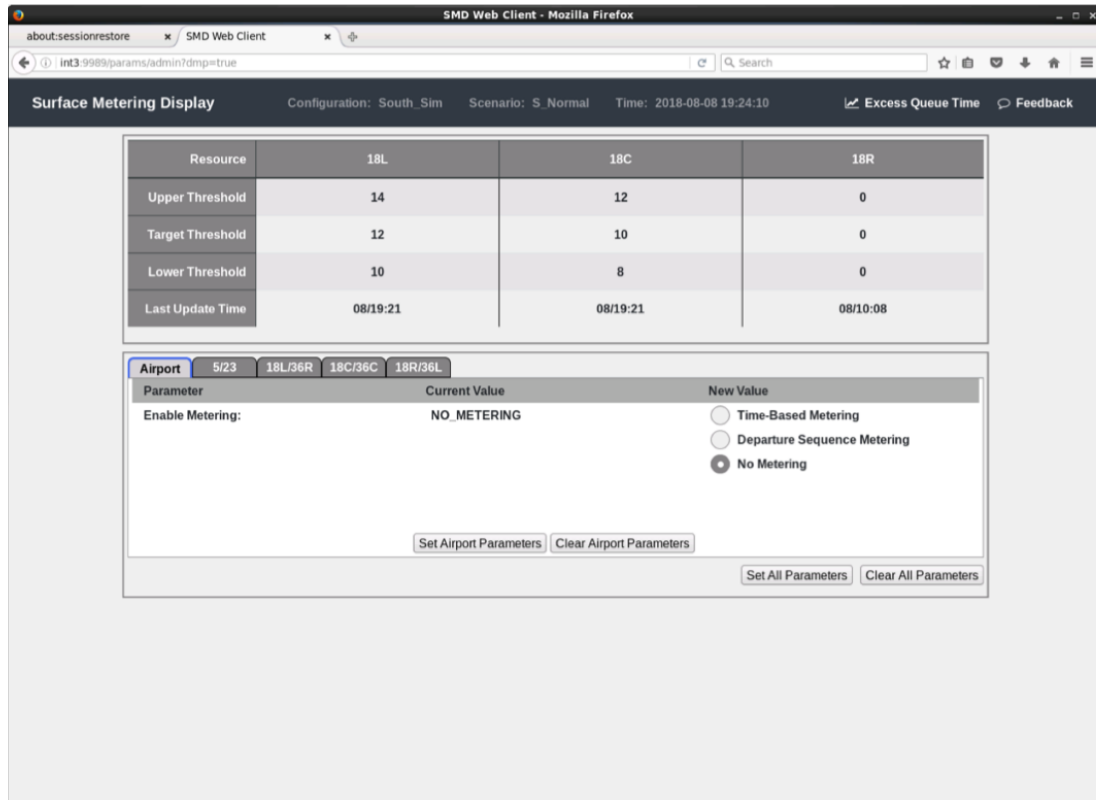

Figure 3. The initial SMD interface window.
This section describes the ATD-2 surface metering capability and the elements of the SMD main interface (see Figure 3). With the release of ATD-2 software version 4.0.0, metering was switched from the tactical mode used in previous versions to the newly implemented strategic metering mode. At that time, all NASA meatballs were set to point to the strategic metering links.
Step 2: Click on the 'Metering Params' toggle option on the right side of the SMD's toolbar. The window will now display the Metering Parameters page and the toggle option will now display 'Excess Queue Time' (Figure 3).
The primary information and selectable options for the Metering Parameters page as it initially appears is shown above in Figure 3. The top half of the page shows the current settings for Target Excess Queue Time (TEQT) and upper and lower thresholds by airport resource (i.e., runway). The lower half of the page allows for setting the type of metering to be used for the airport, and also setting the associated parameter values either by airport or by runway.
The top half of the Metering Parameters page displays the current setting for target and threshold times for each resource listed, shown in Figure 3. The resources listed are based on the current configuration. The system will look up the departure runways used according to the current airport configuration set in the STBO Client and it will only display those active runways.